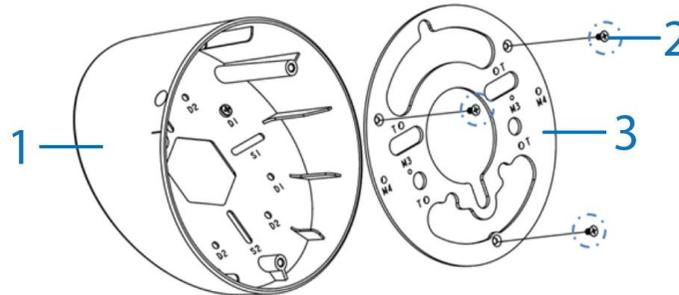

Figure 3
5. Hold the adaptor plate (3) (Figure 3) up to the tilt mount (1) (Figure 3) and align the three holes on the adaptor plate with the three holes on the tilt mount.
6. Insert the three M3 screws (2) (Figure 3) into the three holes and use a screwdriver to securely attach the adaptor plate (3) (Figure 3) to the tilt mount (1) (Figure 3).